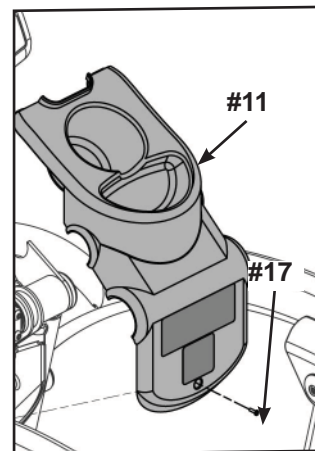

Figure 6
- B. Place the top cover (#11) in the correct position on the main frame assembly and hand thread the Phillips screw #8 X .625 BLK (#17) See Figure 6.